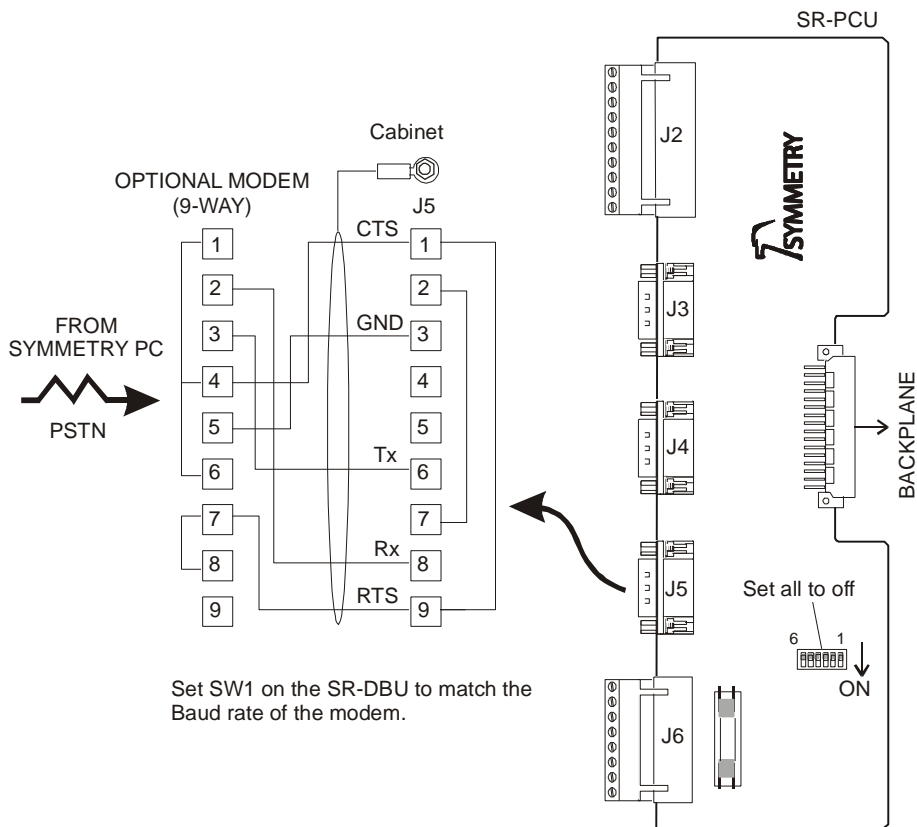

Figure 2-1: Connecting a Fallback Modem to the SR-PCU
4. If fallback communication is required, connect an external modem to port J5 on the SR-PCU (see Figure 2-1). Fallback is used in the event that an Ethernet communications failure is detected.